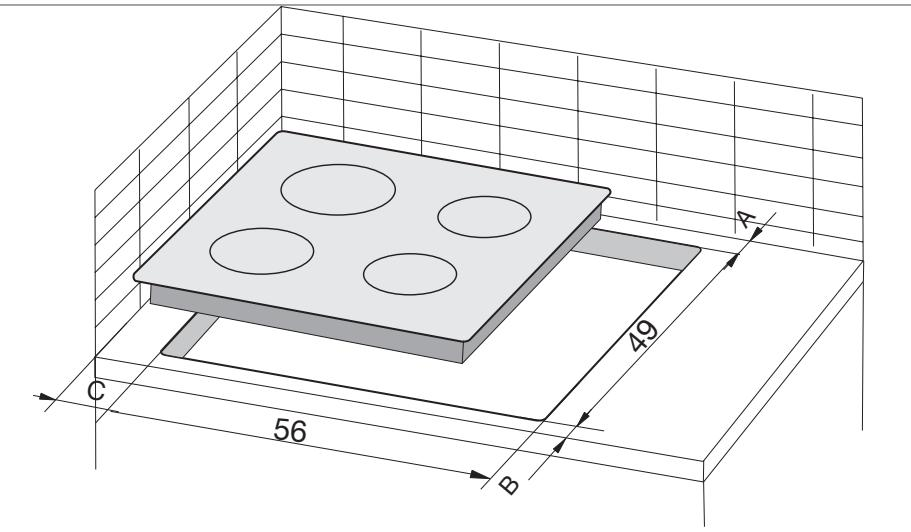

Figure 1
- The cutout in the worktop will be (L x D): **56 x 49 mm** (see figure 1).
- Make sure you leave sufficient space around the recess: leave at least **50 mm** between the hob and the rear wall (dimension A, figure 1), **60 mm** between the hob and the front (dimension B, figure 1) and **55 mm** between the hob and the side wall (dimension C, figure 1).